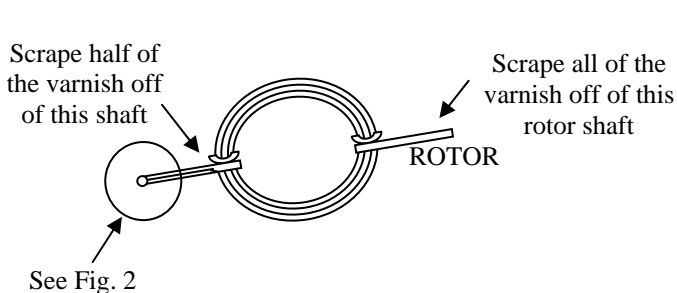
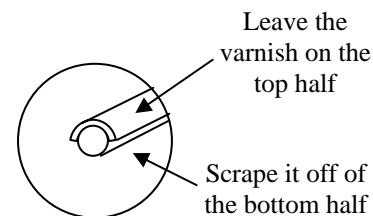

Figure 1
Figure 2
- 1) Make the rotor by winding the 24 gauge insulated wire about 8 turns around the 1" wood dowel. Wrap the ends of the wire a couple of times around the 8 turns to hold them securely and leave about 1.5" of the wire on each end (see Figure 1). Scrape the varnish insulation off one end of the wire, but scrape only the top half of the varnish off the other end (see Figure 2). Use the sand paper to eliminate the varnish. It is important to remove all the varnish in the areas affected and all along the length of the straight wire down to the coil. This is the single biggest problem in motors not working properly.